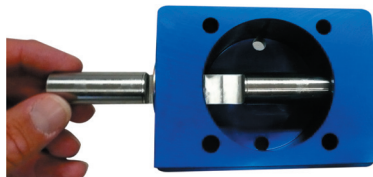

Figure 6
7. Lightly grease the plunger with clear grease provided in small grey tube. Slide plunger through plunger guides in crankcase. Figure 6 shows plunger in crankcase.